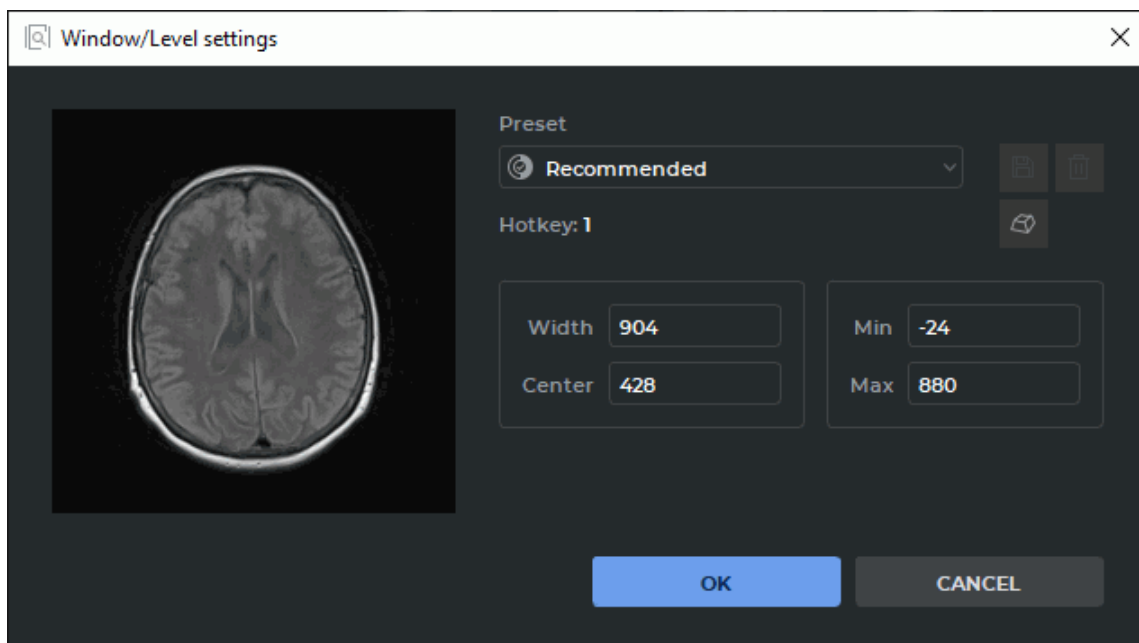

Figure 2.23: Dialog box **Window Level settings**
- **Custom W/L...** — the window width and level parameters are provided by the user in the **Window Level settings** dialog box (see Figure 2.23) and are used for all the images in the series.
To customize the window width and level settings, click the **Custom W/L** button . In the **Window Level settings** dialog box (Figure 2.23) that pops up, provide the window width and level parameters or choose the preset values you need from the **Preset** dropdown list. On the **Preset** list, you will find standard preset values, as well as presets saved by the user earlier (see Section 2.16.2). Standard preset values are marked with icons.
To use the values provided in the **Window Level settings** dialog box (Figure 2.23) when viewing merged series, proceed as follows:
1. In the list of layers for the merged series, choose any except the first (base) layer. For details on series fusion, see Chapter 4. In the **Window Level settings** dialog box (Figure 2.23), provide the window width and level parameters or choose the preset values you need for this layer.